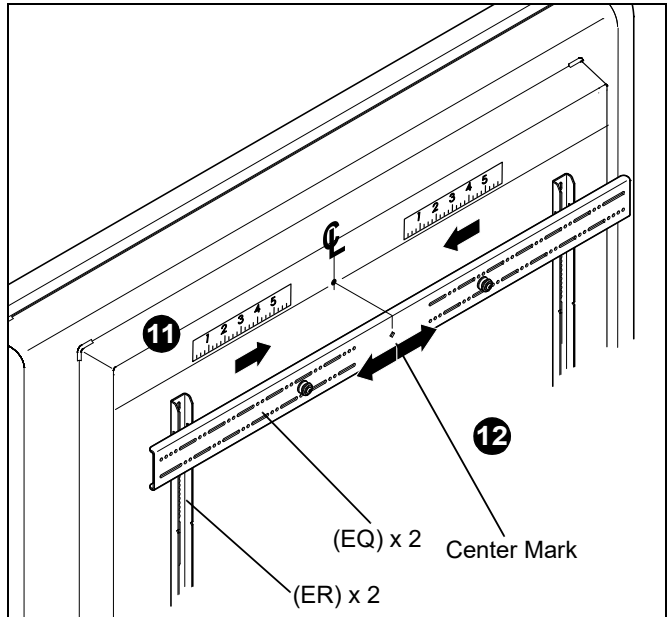
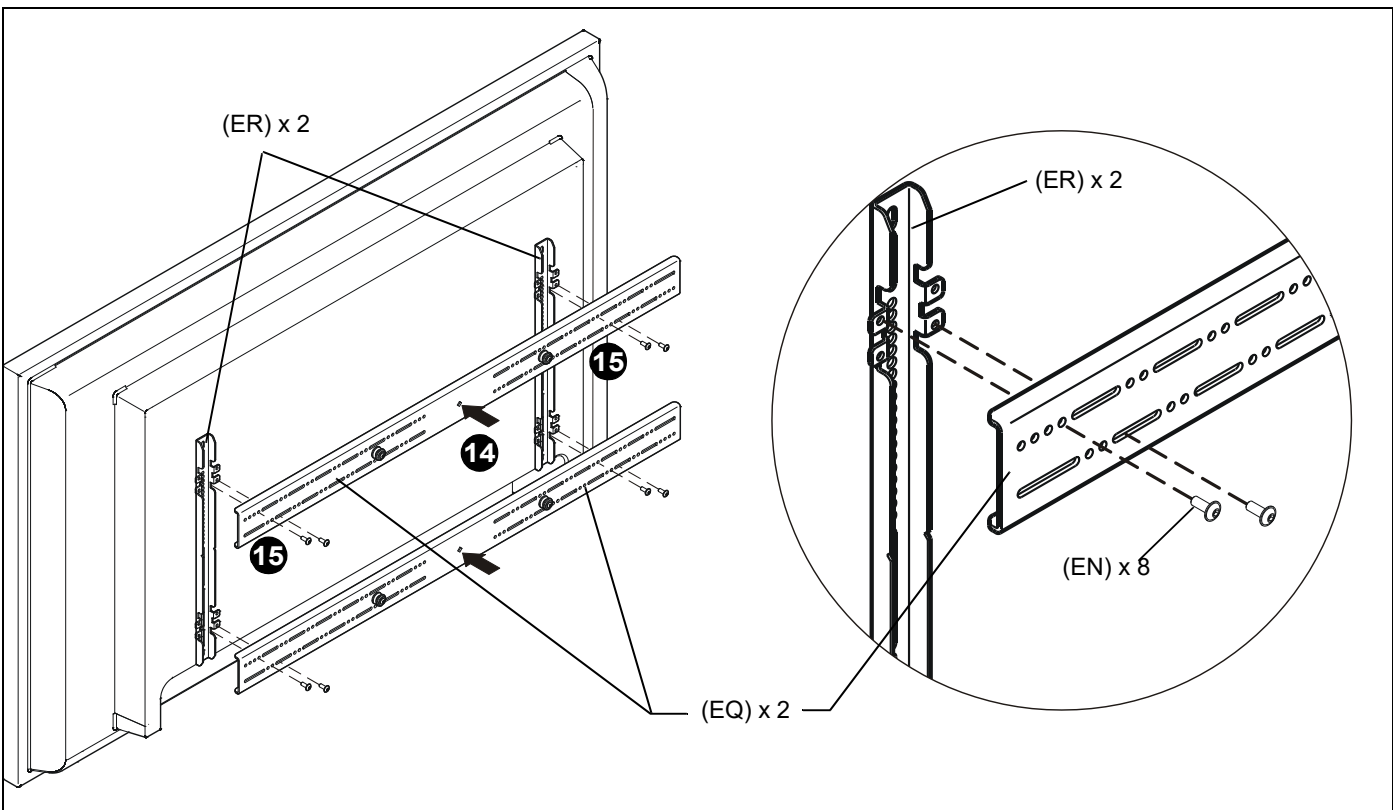

Figure 6
Figure 7
13. Determine and mark the horizontal center position between the Left and Right *TOP* mounting holes in display. (See Figure 6)
14. Determine and mark the horizontal center position between the Left and Right *BOTTOM* mounting holes in display. (See Figure 6)
15. Orient upper horizontal mounting bracket (EQ) so that flanges are facing towards display and resting in recessed area of left and right vertical mounting brackets (ER). (See Figure 6)
16. Adjust Upper horizontal mounting bracket (EQ) position until center diamond in horizontal mounting bracket (EU) aligns with mark made in Step 9, and mounting holes and slots in horizontal mounting bracket (EQ) are aligned with threaded holes in mounting tabs of left and right vertical mounting brackets (ER). (See Figure 6) and (See Figure 7)
17. Use 1/8" hex key (EP) to secure upper horizontal mounting bracket (EQ) to left and right vertical mounting brackets (ER) using four button head flanged screws (EN). (See Figure 7)
18. Repeat Steps 12 through 15 for lower horizontal mounting bracket (EQ).
IMPORTANT ! : The orientation of, and mounting holes used, when installing the lower horizontal mounting bracket must be the same as the upper horizontal mounting bracket. Vertically align upper and lower brackets by aligning holes or end of slots. (See Figure 7)
IMPORTANT ! : Whenever possible install mounting screws diagonally as shown in detail in Figure 7 below.